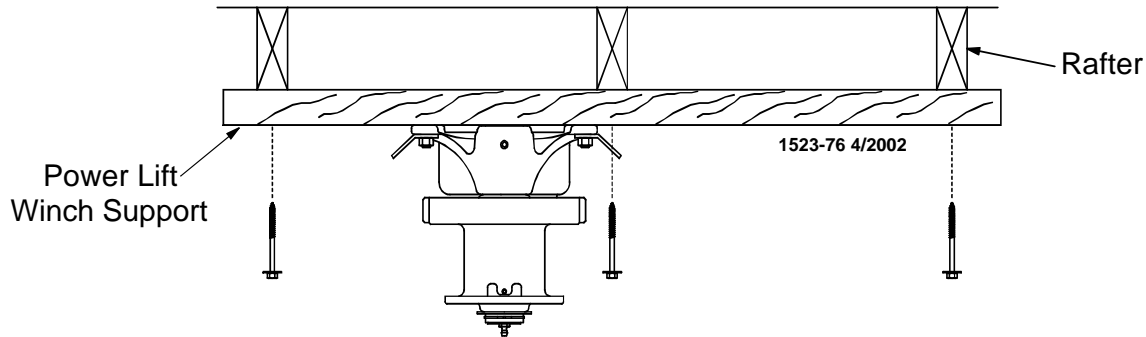

Figure 7. Mounting the Power Lift Winch and support to the rafters.
3. Attach the Power Lift Winch Support (with the Power Winch secured) to the ceiling at the center of the feeder line. See **Figure 7**. The Power Lift Winch Support must be parallel to the feeder line and must span at least 3 rafters in a wood frame house and 2 rafters in a steel frame house.